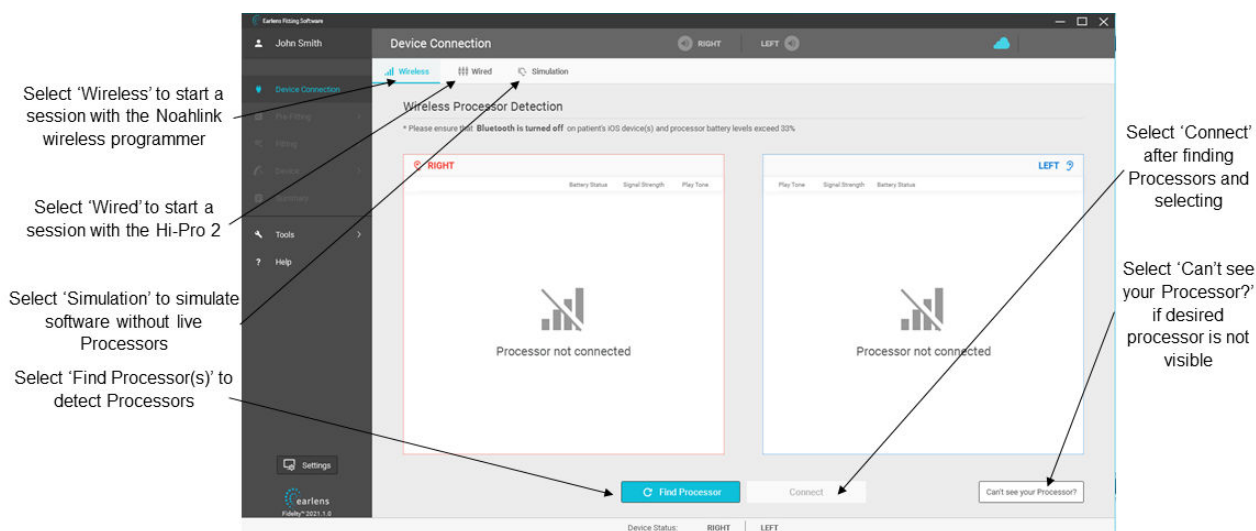

Figure 11: Device Connection screen
- *Device Connection*: Detect Processors, start a fitting session, and access Simulation mode (Figure 11).
- f. The “Device Connection” screen will open (Figure 11).
- e. The “Device Connection” screen will open (Figure 11).